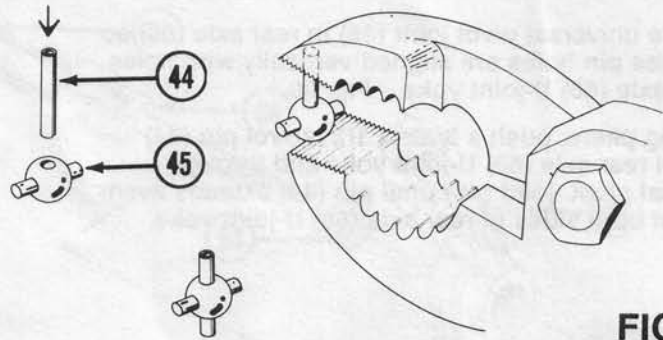

FIG. 16
29. Insert $3/32"$ x $1/2"$ spirol pin (44) into universal pivot joint (45) so that it extends out evenly on both sides. Fig. 16.